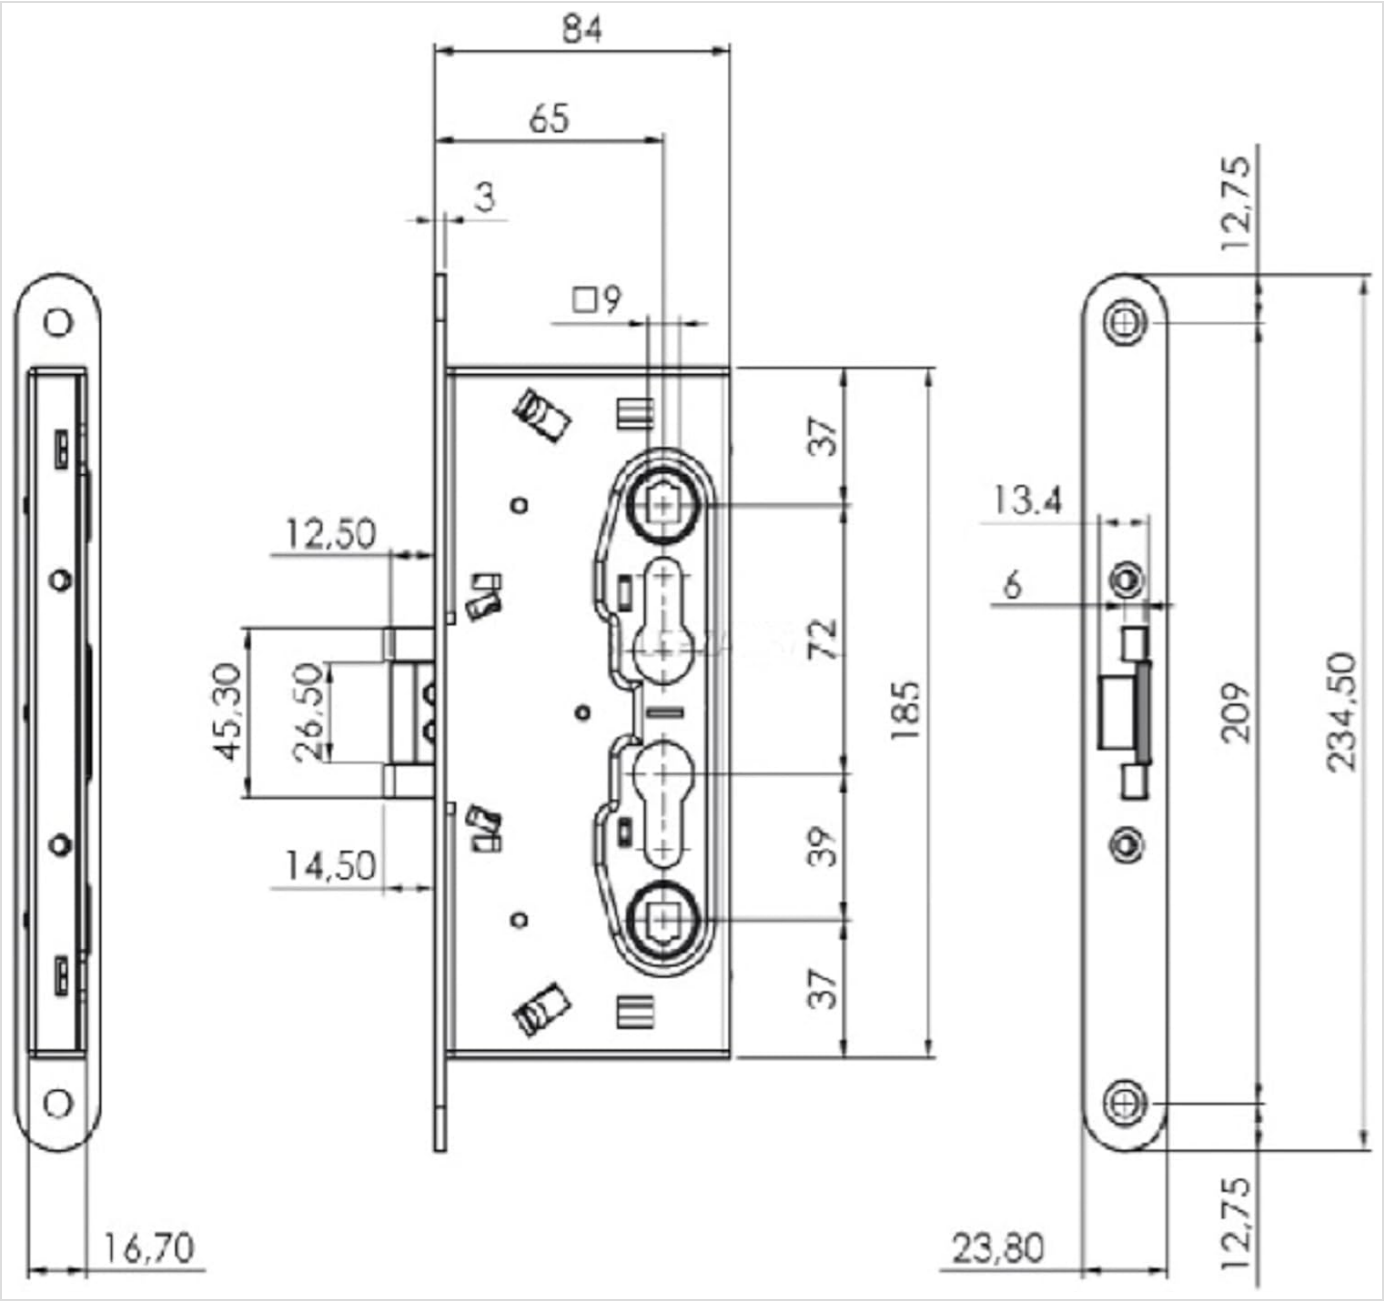

Figure 1: Technical drawing showing detailed dimensions of the mortise lock, including backset, spacing, and faceplate measurements.
- Using the provided technical drawing (Figure 1) as a guide, mark the mortise pocket dimensions on the door edge and face.